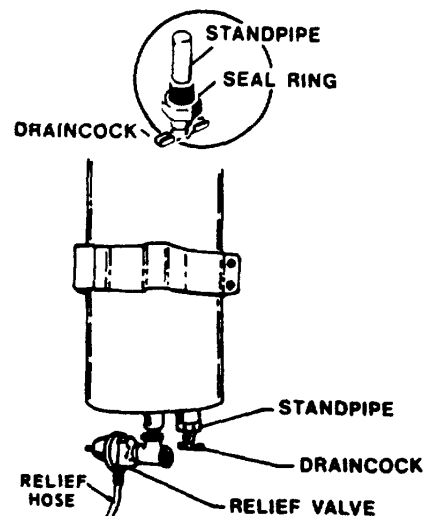
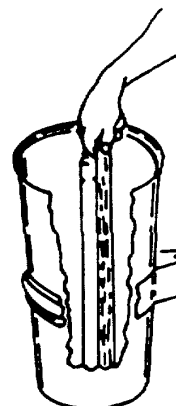

FIGURE 87
FIGURE 89
- (1) Use one or more oil jets to pump oil from Reservoir into a separate container. (Oil line may be uncoupled from oil manifold and used to pump oil from Reservoir to container.) When oil level has been lowered to pump intake, oil will stop pumping. Turn motor off.
- (2) See Figure 87. Unscrew Relief Hose from Relief Valve.
- (3) See Figure 87. Open Draincock on bottom of filter container and drain about a quart of oil from the container to prevent spillage when removing element. Close Draincock.
- (4) Remove replacement filter element from protective bag.
- (2) See Figure 87. Open Draincock.
- (3) Remove Cover while oil is draining.
- (4) Several minutes after oil has drained from filter container, remove filter element.
- (5) Dump oil from sediment tray into reservoir.
- (6) Remove Standpipe.
- (7) See Figure 89. Use a long piece of wood to scrape sludge from filter container into sediment tray.